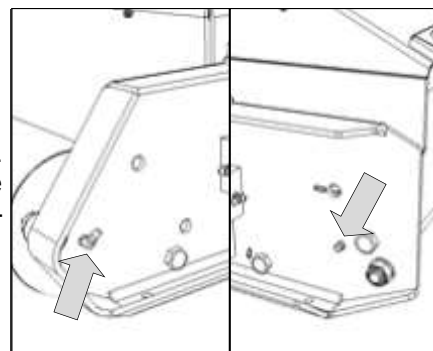

Fig. 45
1. **Roller bearings:** Grease these **every 8 hours or daily**. Greasers are fitted to each roller side channel on the centreline of each roller (Fig. 45). Apply **2 pumps** of multi-purpose grease to each grease fitting.